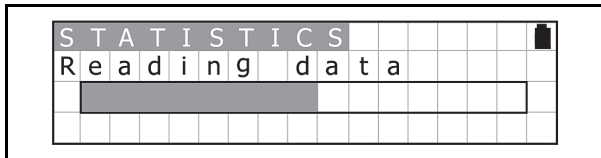

Figure 21 Acceptance Log Reading Screen
- The LCD Screen will display a Progress Bar while the Acceptance Log is being read (See Figure 21).